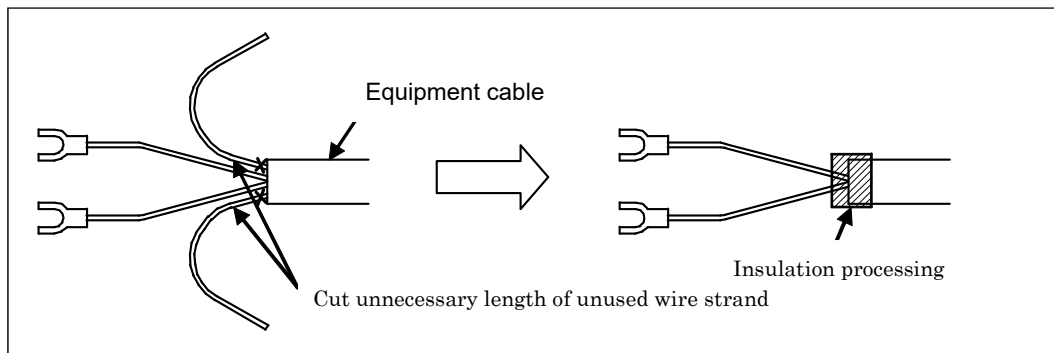

Fig. 5 (a) Treatment method of equipment cable
- Cut and discard any unnecessary length of wire strand of the end effector (hand) cable. Insulate the cable with seal tape. (See Fig. 5 (a))